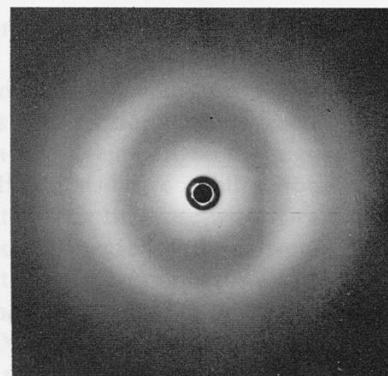

Figure J123
- c** Figure J123 shows the diffraction pattern for distilled water. From demonstration J16, what might be a reasonable interpretation of the arrangement of molecules in water?